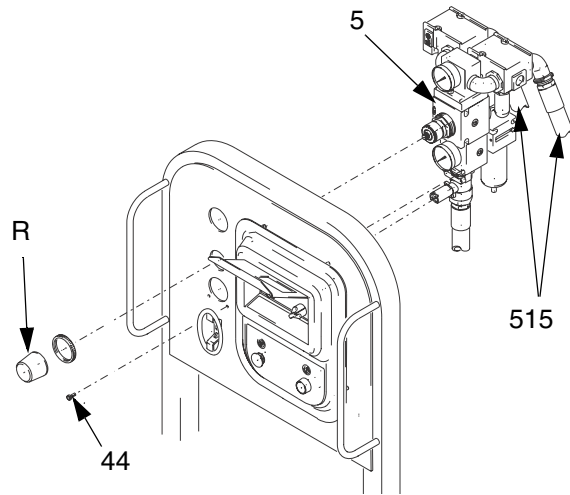

FIG. 17
2. Pull off regulator knob (R). FIG. 17.
3. Remove two screws (44).
4. Disconnect two hoses (515) from pump motors.